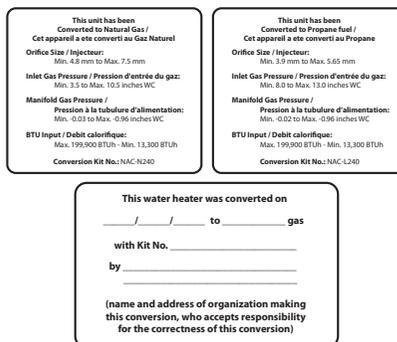

Figure 11. Proper Placement of Gas Conversion Labels
13. Once the CO2 or offset values have been confirmed, apply the included conversion stickers to show that the appliance has been converted to natural gas. Place this labels adjacent to the rating plate as shown in Figure 11.